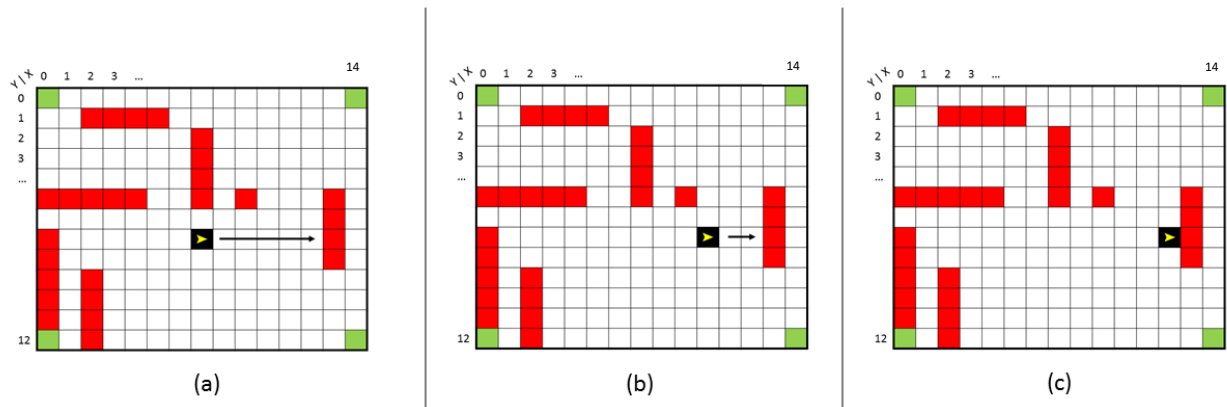

Figure 4 - Distance from obstacles and led blinking
Whenever (**i.e., at any time instant**) the proximity sensor detects an obstacle **in front of the robot**, the DIRECTION LED currently active blinks with the following specifications according to the distance from the obstacle (Figure 4):
- Between 5 (included) and 3 (included) slots: 2Hz blinking (Figure 4.a);
- 2 slots - 1 slot: 4Hz blinking (Figure 4.b);
- 0 slots (robot right in front of the obstacle): 8Hz (Figure 4.c). **NOTE: Also the RUNNING LED must blink at 5Hz.**
When the robot is in the position of Figure 4.c, the player must not be allowed to proceed in that direction. That is, any pressure of the RUN button does not change the robot position. The player must first release the RUN button. Then, press the ROTATE button (the rotation must be applied when the button is actually released). Once released, press again RUN button to continue the movement.